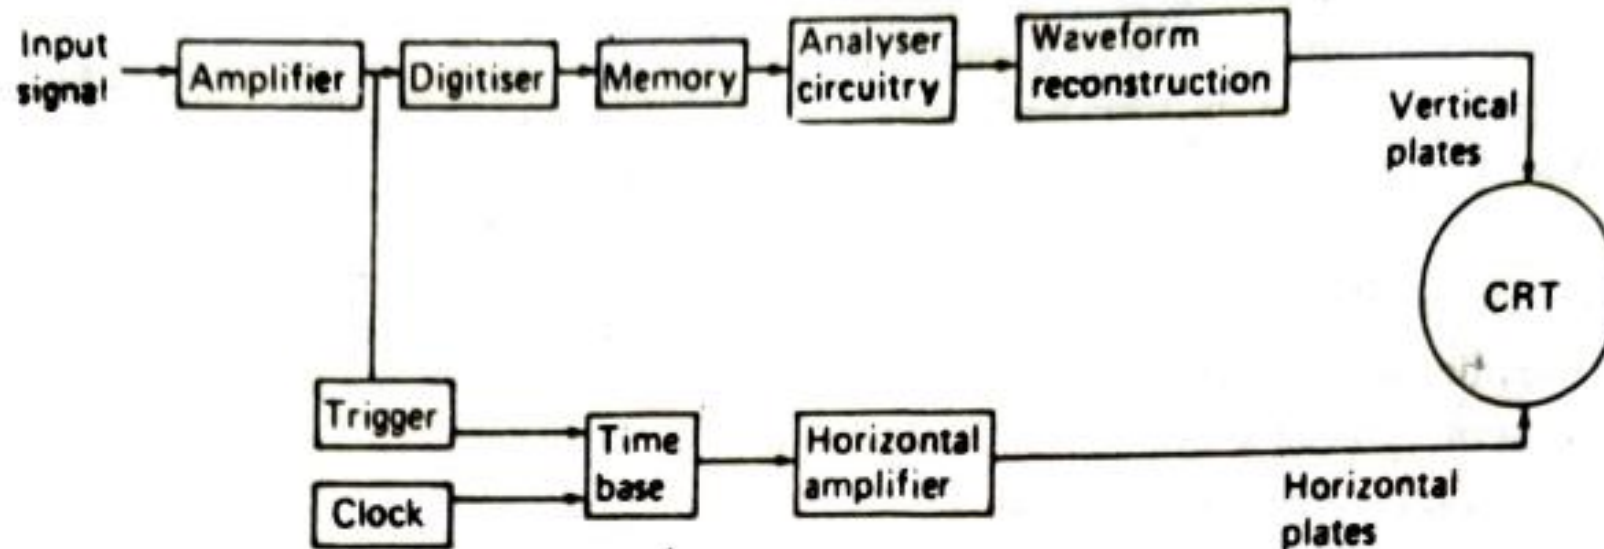

Figure 31
- Fig. 31 shows the block diagram of DSO.